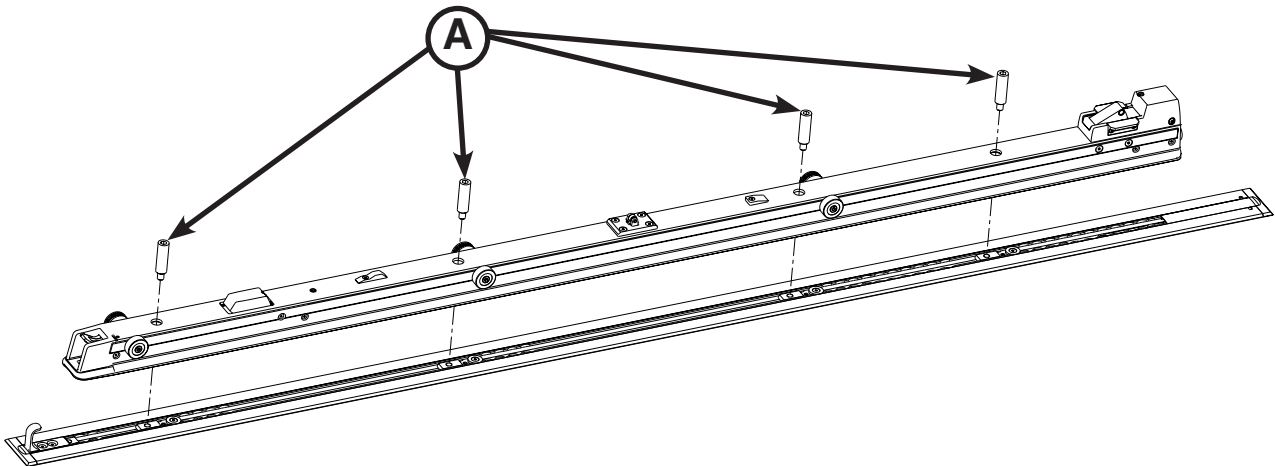

Figure 17: Install Anchor Mounting Posts
1. Using a 3/8" hex wrench, install the four supplied anchor mounting posts (6390-001-150) (A) into the four holes in the anchor assembly as shown in Figure 17.